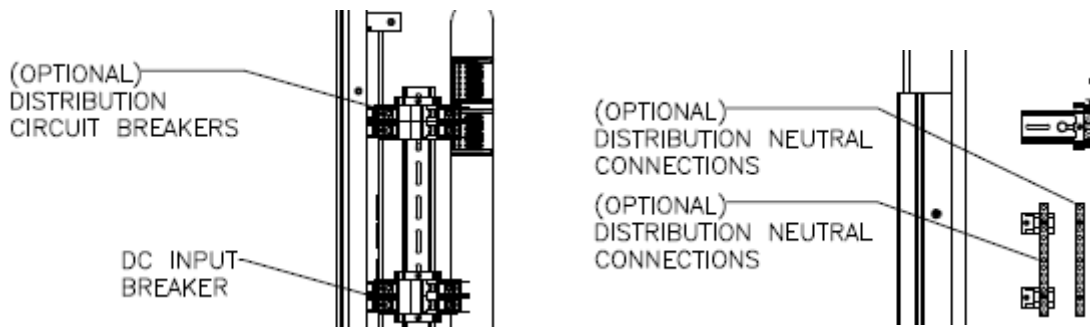

Figure 8: Output Circuit Breaker Terminals on ELI
Output circuit breaker(s) for separating and controlling the load connected to the ELI are available. The breakers are located in an accessible compartment separated from the customer connection section. See **Figure 8: Output Circuit Breaker Terminals on ELI**. The OCB wire connections replace the standard and dual output terminals. A grounding bar & neutral bar are provided with this option.
1. Connect Output wires to appropriate line, neutral, and ground terminals according to **Figure 8**.